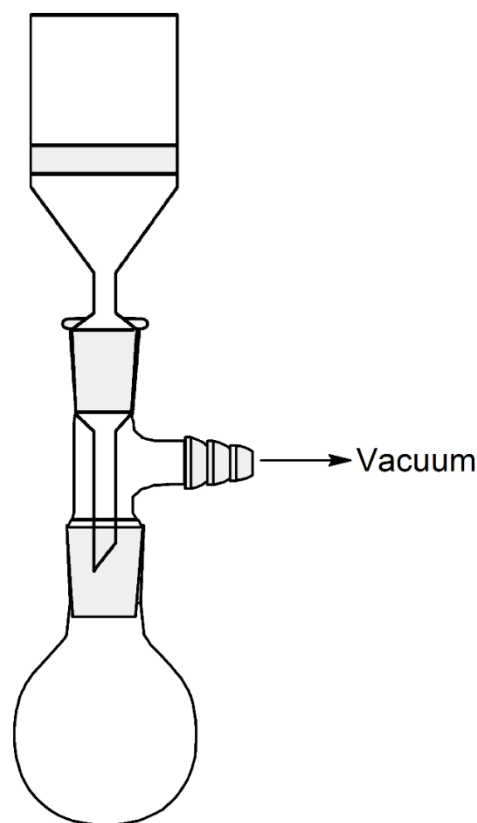

Figure 2. Filtration apparatus
7. Filter the reaction mixture (use fritted glass filter funnel, filtering adapter and 100 cm³ unlabelled flask). (See Figure 2.)